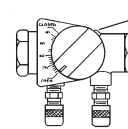

Figure 1
4. After initial pressure differential reading is taken, refer to flow rate charts to obtain flow rate based on pressure differential and valve setting. If flow rate is in excess of that specified, turn indicator knob towards closed position, noting pressure drop and valve setting and determining new flow rates from flow rate chart. Once correct flow rate settings has been established, slide memory screw counter-clockwise towards closed side of indicator plate until memory stop ring hits indicator plate. **Do not force beyond this point.** Tighten memory screw. Refer to Figures 1 and 2. The unit or system has now been balanced and the memory set.